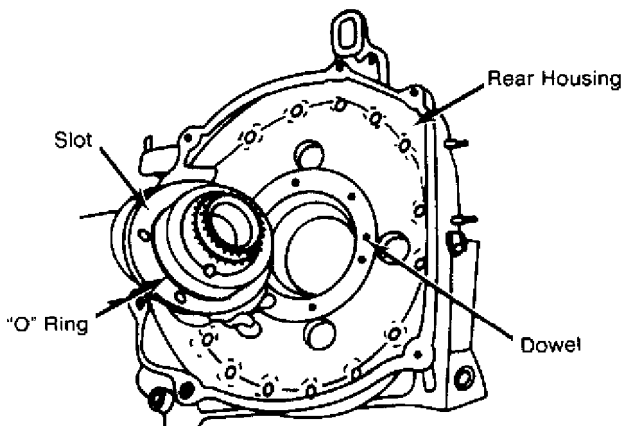

Fig. 8: Checking Oil Seal & Side Seal Step Wear
6) Check oil seal wear surface for variance. Check oil seal step by moving dial indicator from inside to outside of oil seal wear area. See Fig. 8.
7) Check side seal step wear by moving dial indicator around entire circumference of side seal wear tracing pattern. Side seal step wear limit is .0008" (.02 mm). See Fig. 8.